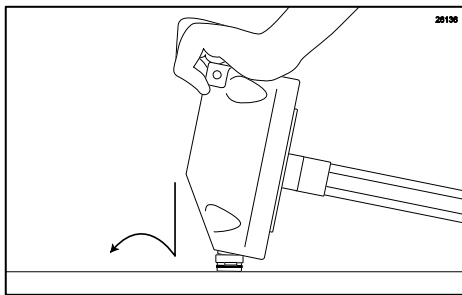

Figure 92
9. Set the Adapter on a flat, clean surface, and then place the freezer door spout upright onto the Adapter. Rock the freezer door forward to snap the Adapter into place. (See Figure 92.)